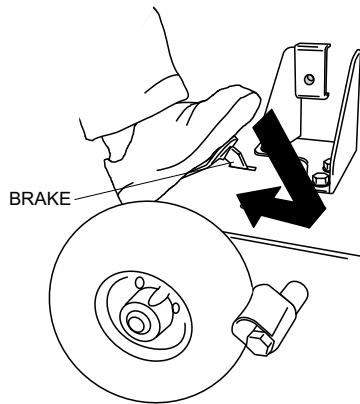

Figure 12. Applying Brake
1. Step on the brake pedal while pulling on the T-handle until the brake pedal is all the way down. See Figure 12.